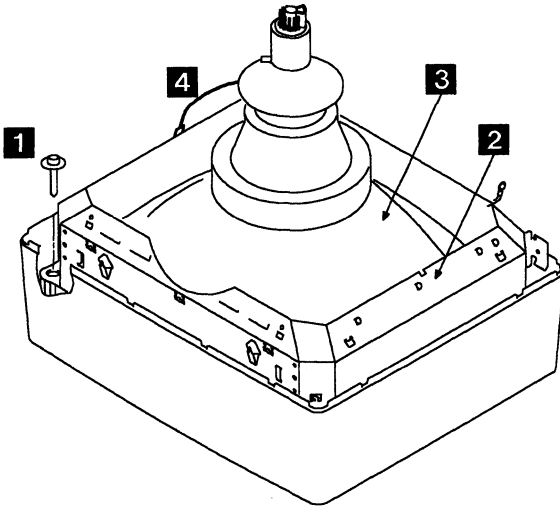

Figure 13. Removing the ITC
10. Refer to Figure 13 on page 27.